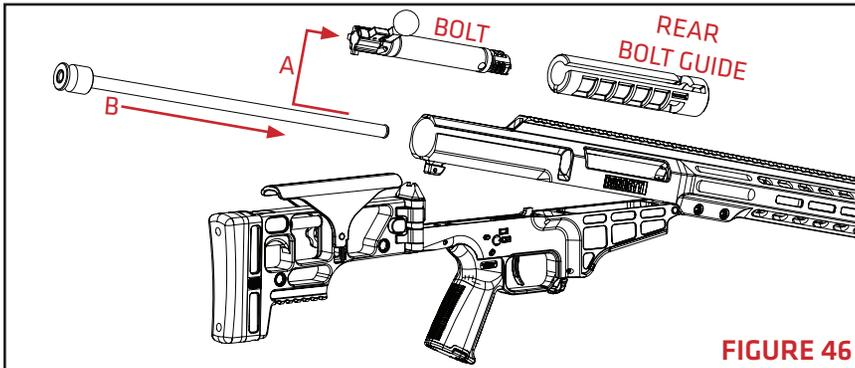

FIGURE 46
3. Remove the bolt and rear bolt guide (**FIGURE 46-A**) and insert the bore guide into the rear of the upper receiver (**FIGURE 46-B**). With the bore guide inserted, perform the following tasks to clean the bore: